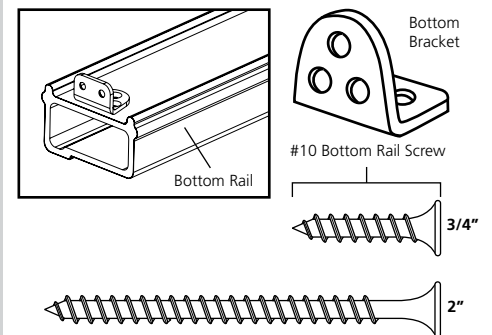

Figure 13
5. Center the bottom bracket on the underside of the bottom rail (Fig 13). Insert the bottom bracket 1/16" from the end of the rail. Mark the three hole locations on the rail. Pre-drill 1/8" holes at desired locations. Repeat for opposite end.